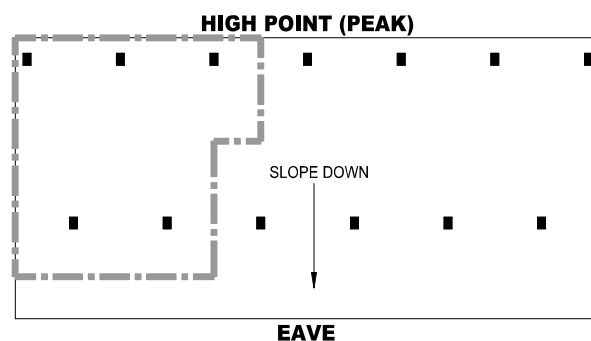

FIGURE 19B
- Calculation #1: Calculate the most hydraulically demanding 5 contiguous sprinklers consisting of 3 at the high point and 2 on the adjacent slope. See FIGURE 19B.